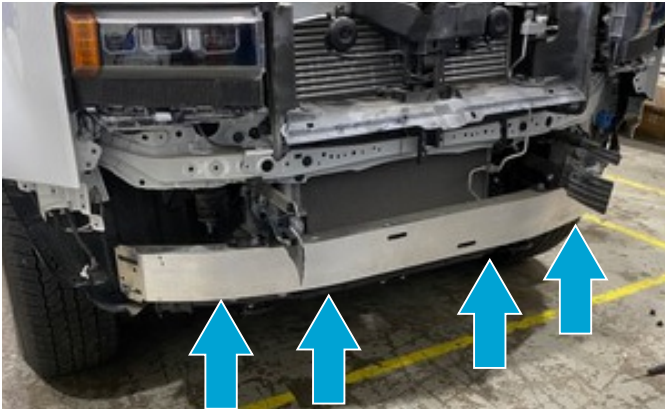

Fig.19
19. Unscrew bolts and remove factory crossmember (fig. 19).